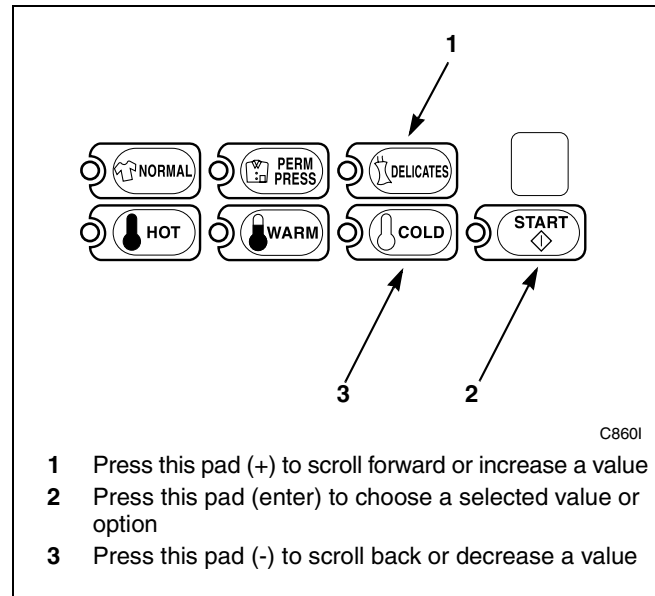

Figure 143
5. Press the DELICATES (+) or the COLD (-) keypad to increase or decrease the current number of minutes displayed in the VFD to the desired number of minutes. Refer to *Figure 143*.
**NOTE: The Permanent Press Wash Agitate Time can be set from zero (0) to 15 minutes.**